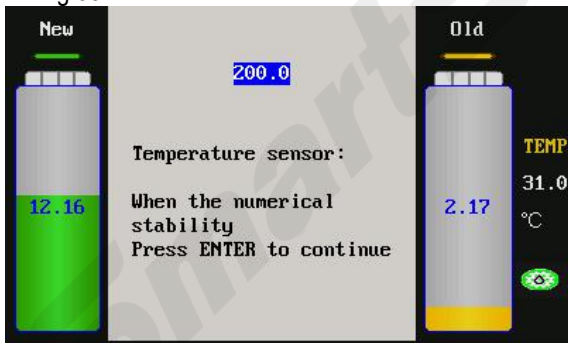

Fig.38
- 9) According to the prompts on the interface, OK the current temperature value (Unit: °C), and then press OK key to save the data. The interface is as shown in Fig.38.